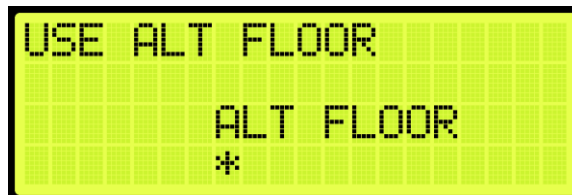

Figure 565: USE ALT FLOOR Menu
5. From the USE ALT FLOOR menu, scroll to select alternate landing or main recall landing (See Figure 565).